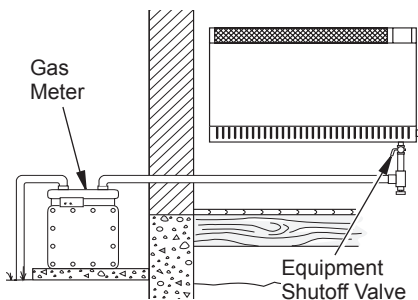
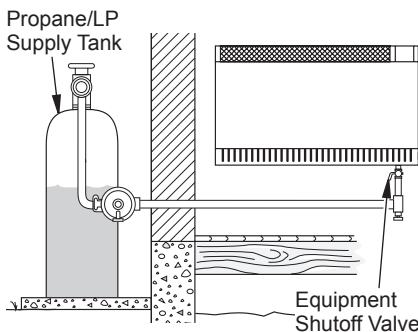

Figure 18 - Checking Gas Joints for Natural Gas
Figure 19 - Checking Gas Joints for Propane/LP Gas
3. Check all joints from gas meter for natural gas (see Figure 18) or propane/LP supply tank for propane/LP gas, to equipment shutoff valve (see Figure 19). Apply a noncorrosive leak detection fluid to all joints. Bubbles forming show a leak.
4. Check all joints from equipment shutoff valve to thermostat gas valve (see Figure 18 or 19). Apply a noncorrosive leak detection fluid to all joints. Bubbles forming show a leak.